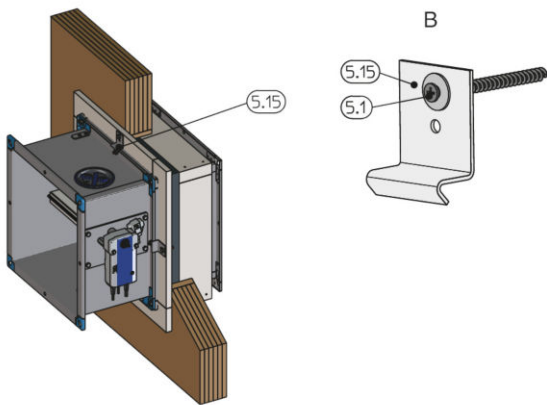

Fig. 88: Fixing to a solid wood wall
2. ▶ Fix the fire damper with brackets and dry wall screws to the solid wood wall, Fig. 88.